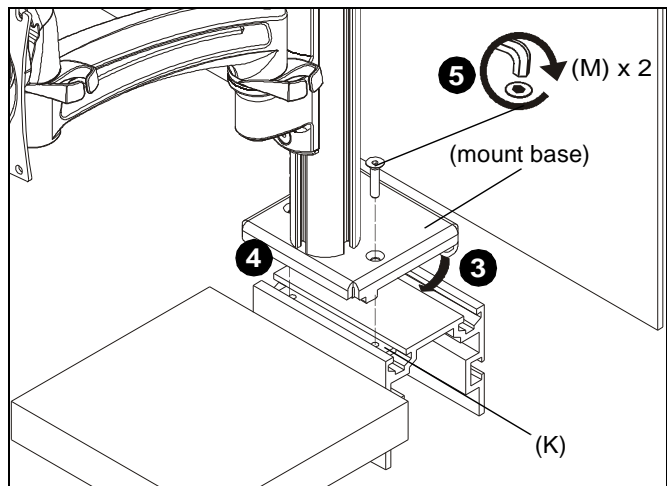

Figure 8
3. Hook back of mount base into back groove of Frame One™ rail. (See Figure 8)
4. Place mount base onto Frame One™ rail making sure holes line up with holes on channel plate (K). (See Figure 8)
5. Use two #10-32 x 7/8" flat head cap screws (M) to secure mount base to channel plate (K). (See Figure 8)